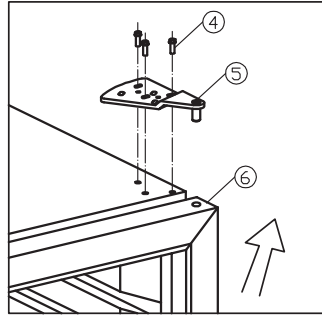

Abb. 7.2
- While holding the door firmly, loosen and remove the top hinge, lift up and remove the door. See fig. 7.2